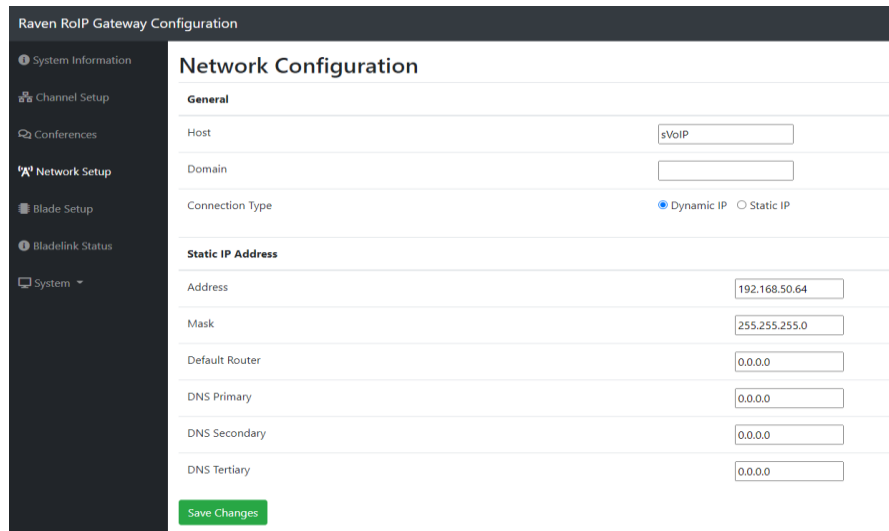

Figure 2-1: “Network Setup” web interface.
1. Navigate to the “Network Setup” page on the left side panel and it will look like Figure 2-1.